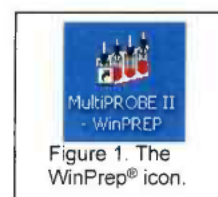

Figure 1. The WinPrep® icon.
4. Open WinPrep® by double clicking icon on the computer desktop (Figure 1).